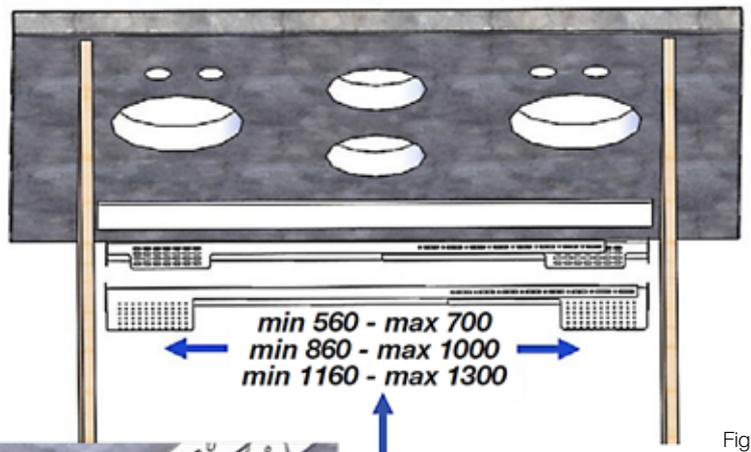

Fig.8
5. Measure the desired length these two sections need to be in correspondence with the internal cabinetry (Fig.8). *Note: Min 860mm - Max 1000mm for 880 units and Min 1160mm - Max 1300mm for 1180 units.*